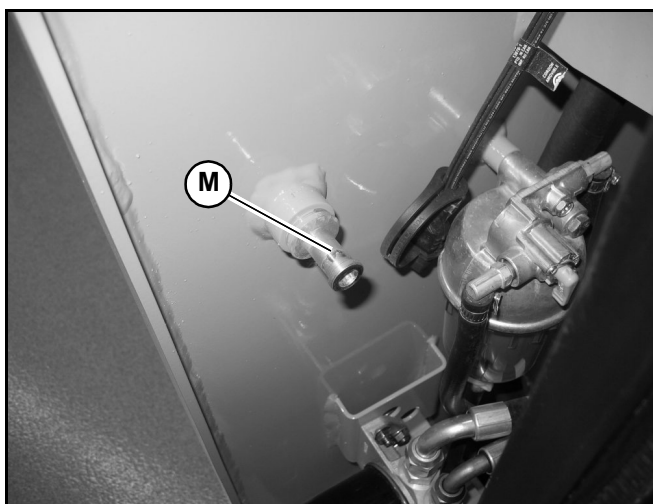

Fig. 44 – Chassis Ground/Rear Door Catch
5. Connect the free end of the positive jumper cable to the positive (+) terminal (P) on the booster battery
6. Connect the negative jumper cable to the negative (-) terminal (N) on the booster battery.
7. Open the rear door of the engine compartment ("Engine Access" on page 103) and connect the free end of the negative jumper cable to the rear door catch (M, Fig 44) in the engine compartment.